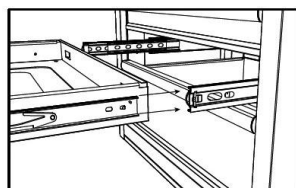

Fig. 4
2. Hold the slide on the drawer while aligning it with the slide on the cabinet (Fig. 4).